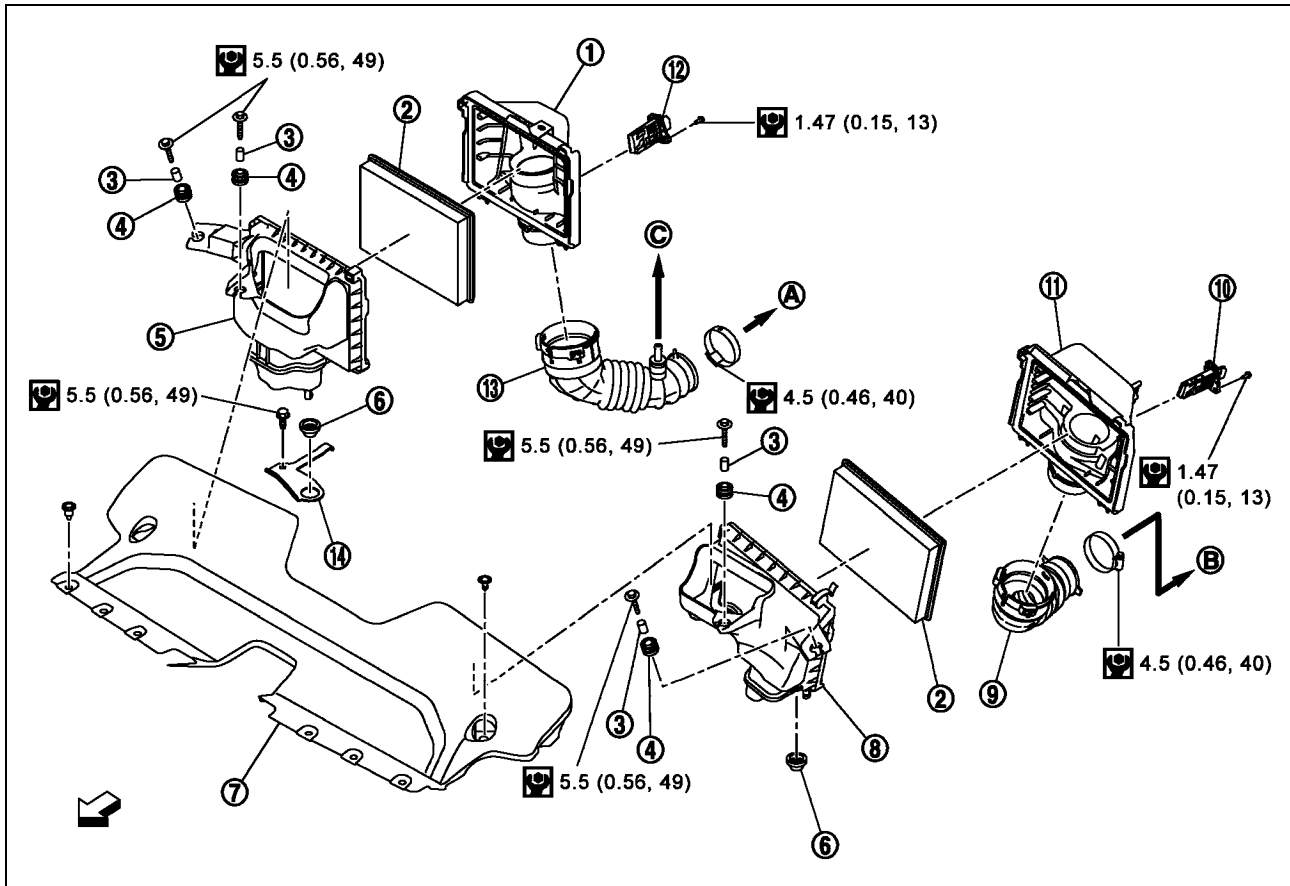

Figure 8
1. Remove Air Duct (inlet) shown in Figure 8.